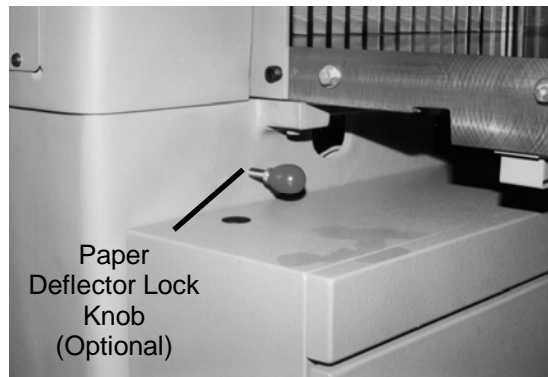

Figure 15
2. If equipped with the paper deflector option, lock it down by screwing the lock knob all the way in Figure 15.